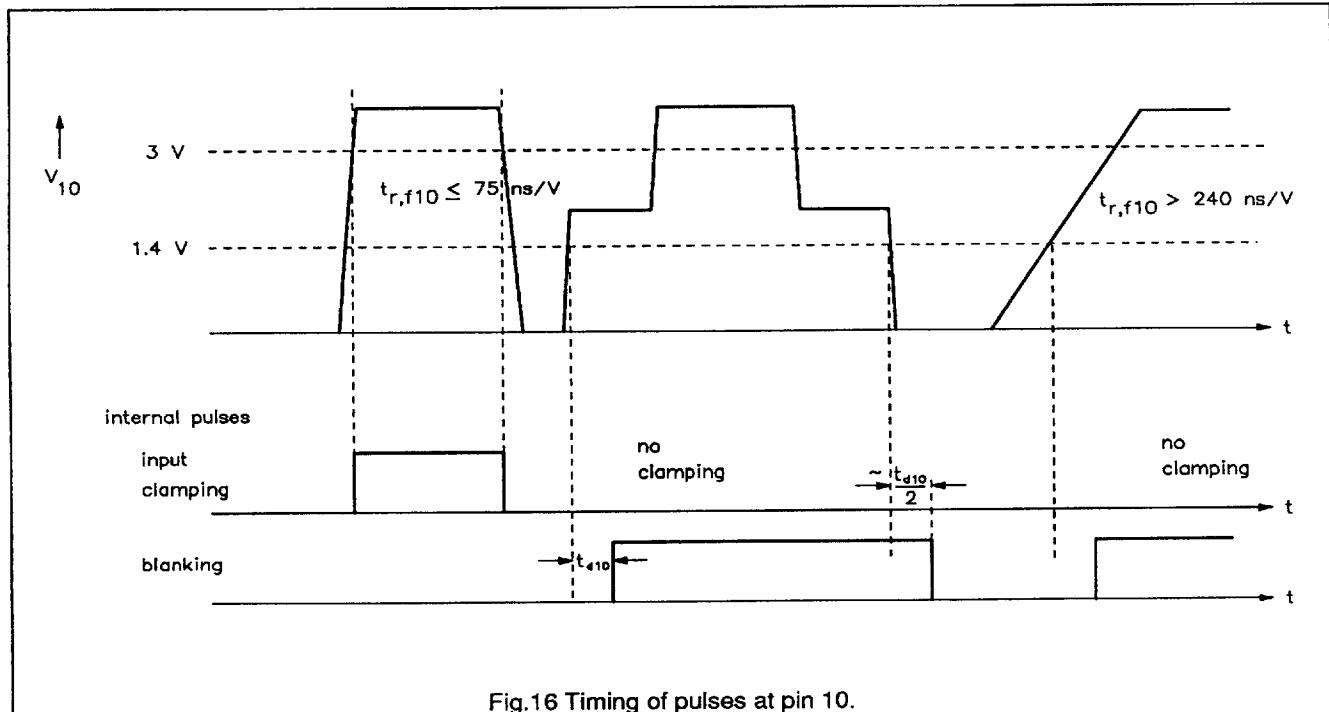

Fig.16 Timing of pulses at pin 10.
17. For  $75 \text{ ns/V} < t_{r10} < 240 \text{ ns/V}$  generation of internal input clamping and blanking pulse is not defined. Any pulses not exceeding the threshold of input clamping (typical 3 V) will be detected as blanking pulse. Timing of pulses at pin 10 see Fig.16.